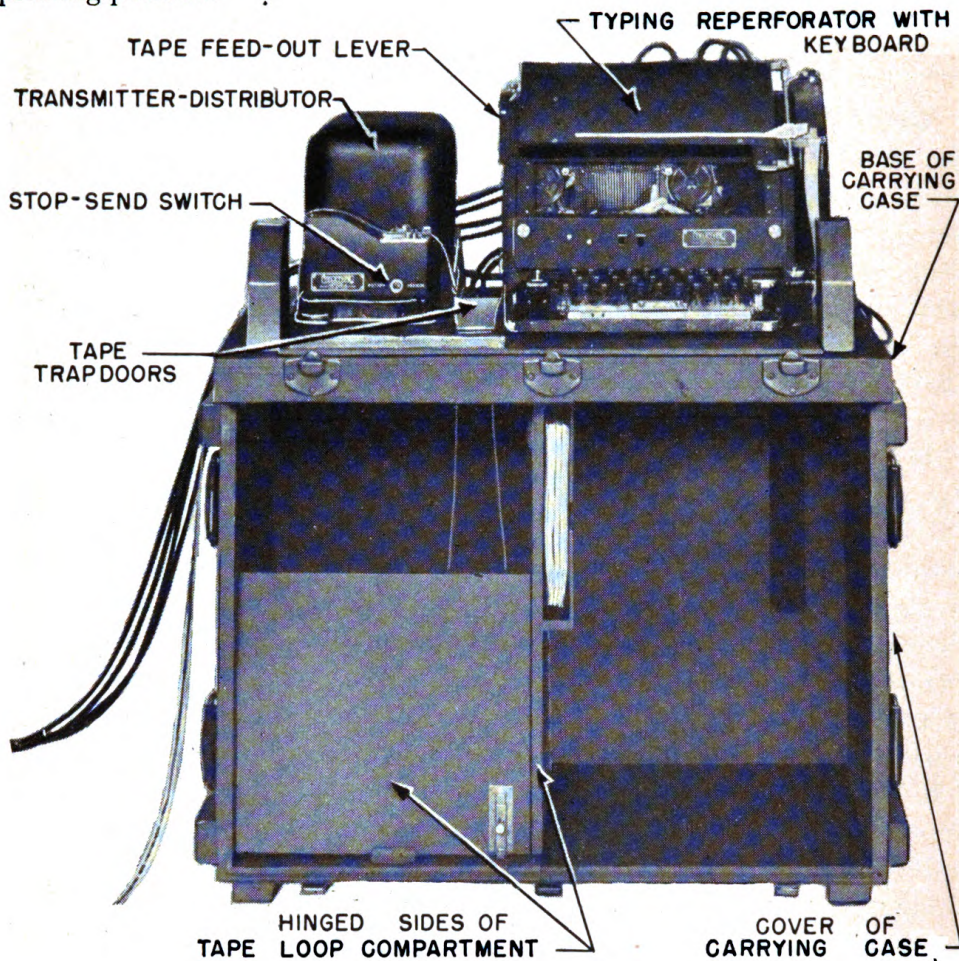

Figure 2. Reperforator Transmitter TG-26-A, front view. TL 50183
3. REPERFORATOR-TRANSMITTERS. a. General. The reperforator-transmitters included in the sets covered by this manual consist essentially of a modified Teletype Corp. model 14 typing reperforator with a keyboard and a modified Teletype Corp. model 14 transmitter-distributor. Both units are shock-mounted on a common wooden base and protected in transportation by a wooden cover. The cover serves as a table for the units when prepared for operation (figs. 2 and 3).
(13) *Tape feed-out lever.* A tape feed-out lever is located on the upper left side of the reperforator (fig. 2). Operation of this lever causes the tape-feeding mechanism to feed out tape as long as the control is operated. The tape will be perforated with the code for the LTRS function as it passes through the punching mechanism.
8. UNPACKING AND SETTING UP EQUIPMENT. **a. Reperforator-transmitter.** Remove the carrying case cover. Use the cover as a table and place it in position (fig. 2), with the side having the tape trap door uppermost. Place the base of the carrying case on the cover so the tape trap doors in the base and cover line up properly. Unlatch the left-hand side of the tape loop compartment and swing the panel forward until the latch snaps in place. Proceed similarly with the right-hand side of the tape loop compartment. Open the tape trap doors in the base and cover of the carrying case. Remove all plugs from jacks of the connection box.